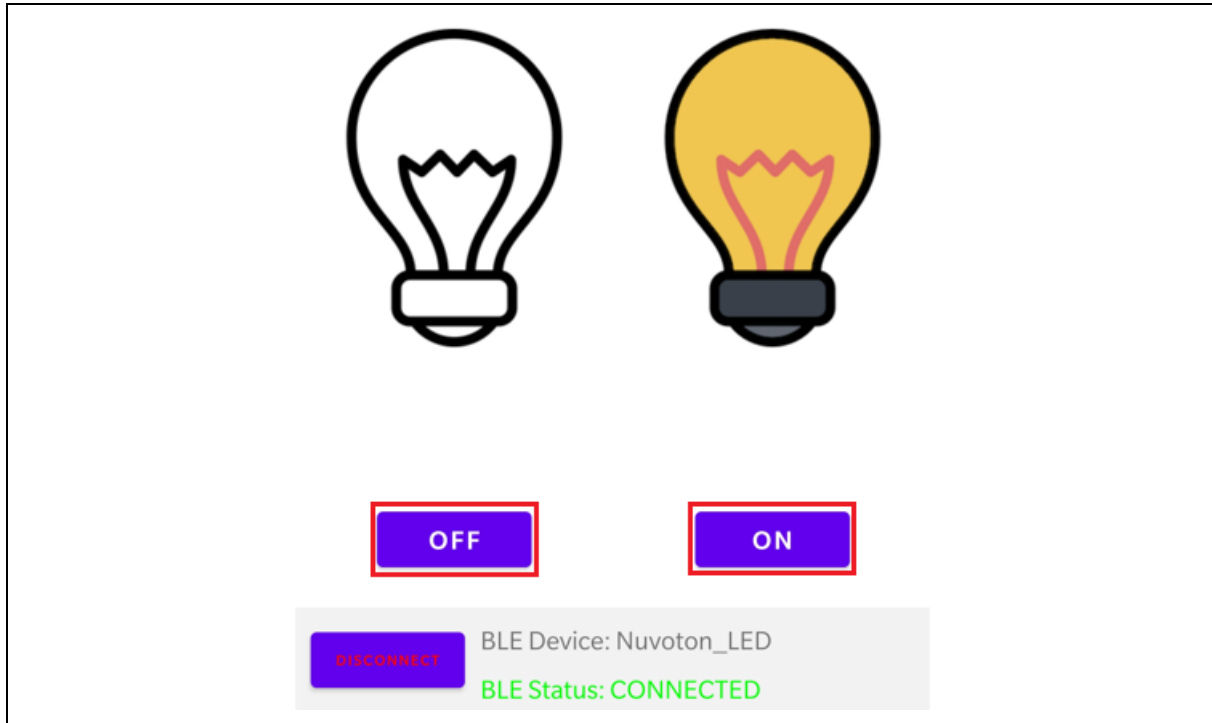

Figure 4-6 NuBLE TRSP\_LED Control Screen
2. In TRSP\_LED tab, you can see two LED control icons, as shown in Figure 4-6. After connect to device, you can click the ON/OFF icons to control the LED on the NuMaker-M03xBT board.